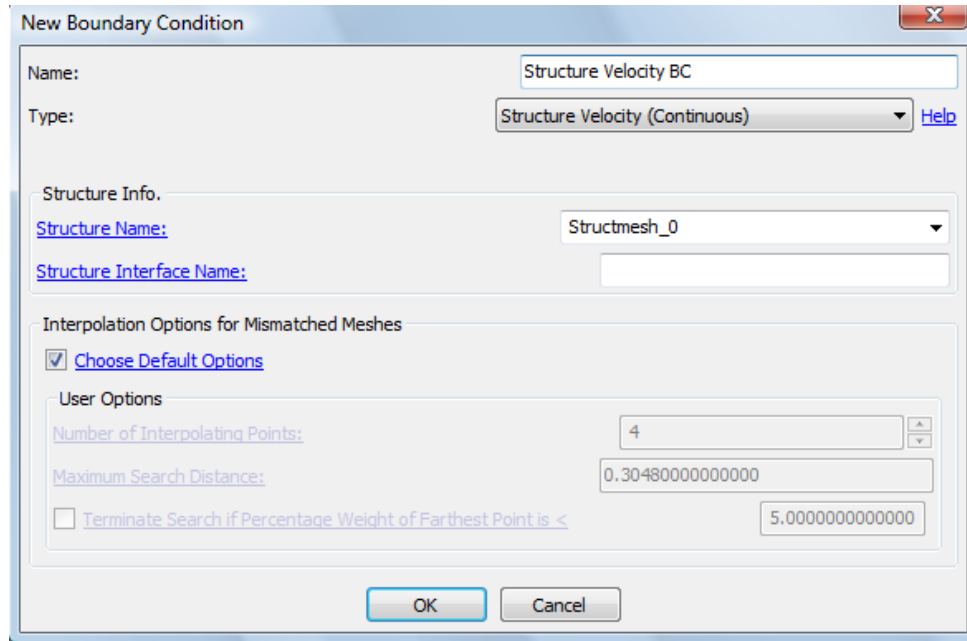

Figure A.41 Edit structure velocity boundary condition window.
- Select **Structure Velocity (Continuous)** from the drop-down menu for 'Type'. The window in Figure A.41 will appear.